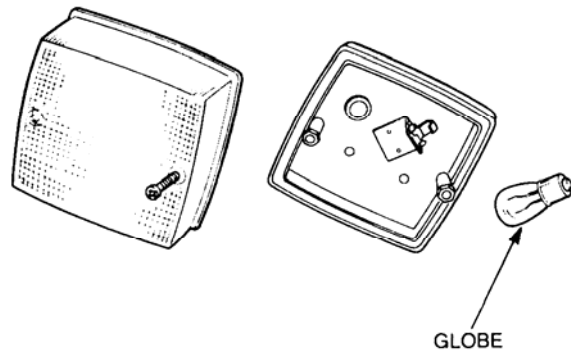

Figure 6 Interior Lamps Exploded View
- a. Remove the two screws securing the lens (refer Figure 6).